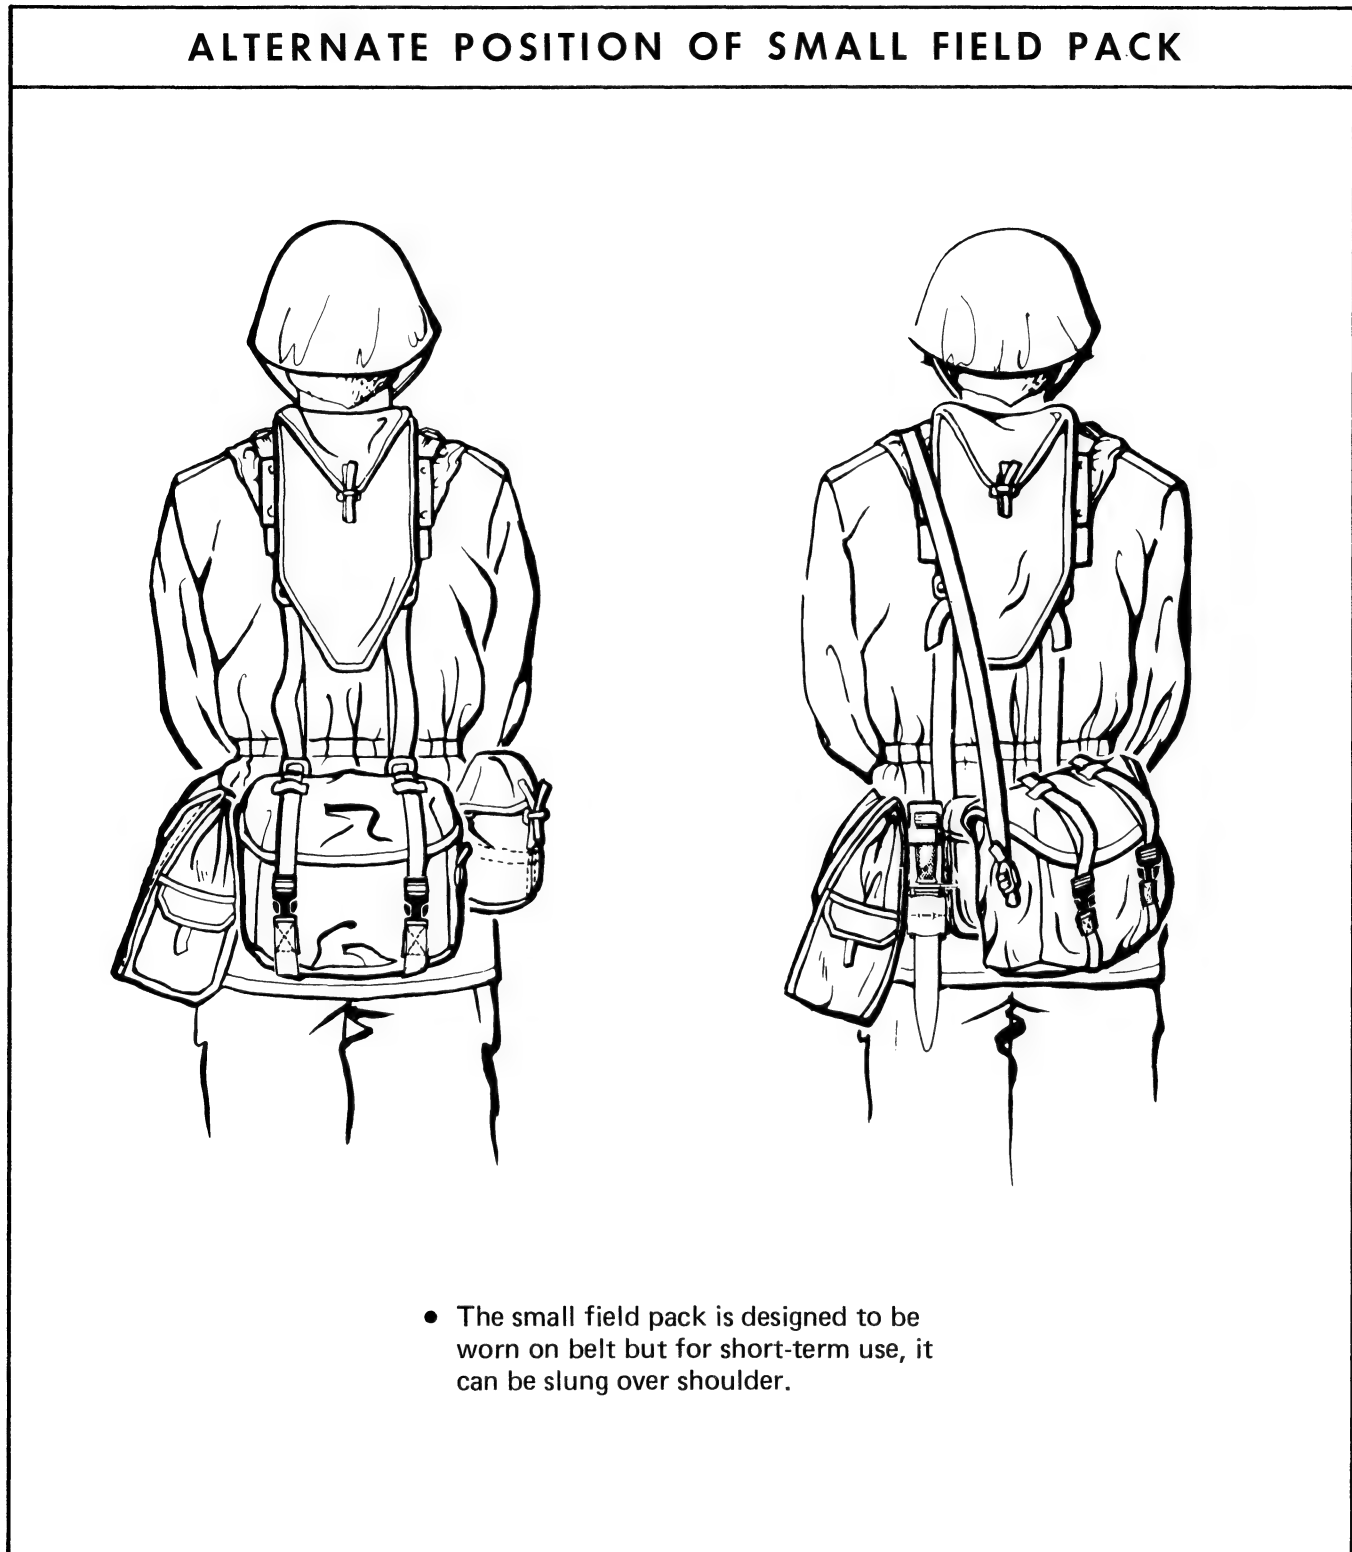

Figure 3-4 Alternate Position of Small Field Pack
4. The Alternate Position of the Small Field Pack is illustrated in Figure 3-4.